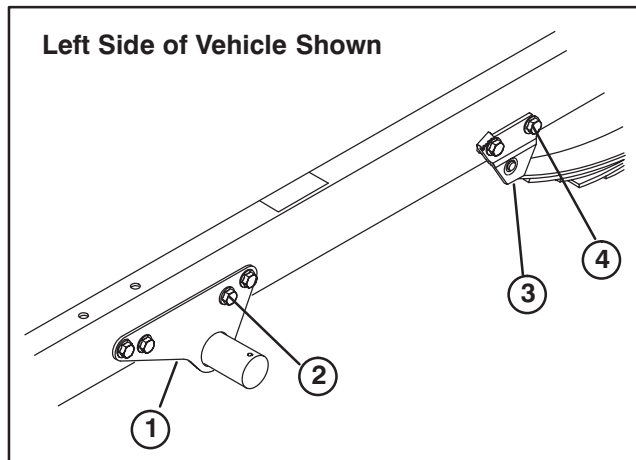

Figure 1
2. Remove the flange screw and locknut, shown in figure 1, securing engine frame to left side of vehicle frame.
4. Remove the rear flange screw and locknut securing leaf spring mount to left side of vehicle frame (Fig. 1).